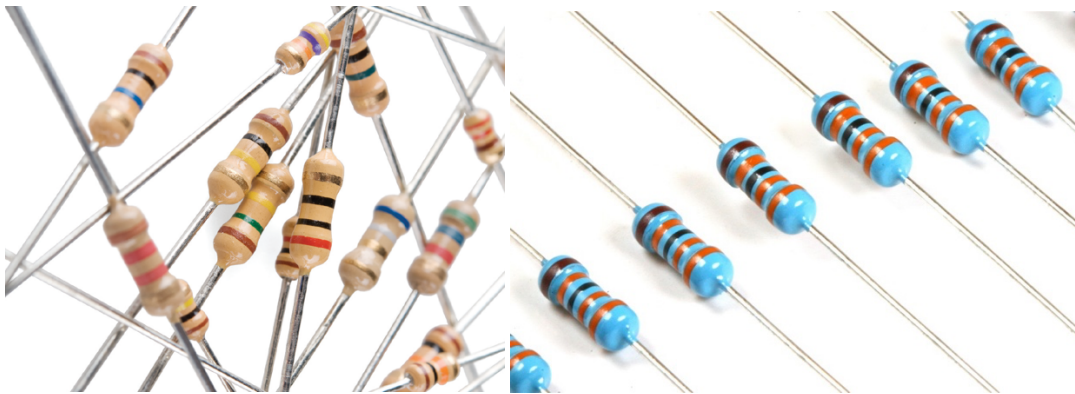

Figure 1 The two common resistor types for ECE labs.
The ECE Department provides lab kits for students each term. Many of the kits have axial leaded resistors like those shown in Figure 1. Often they are returned by students at the end of term, but because they are used and often jumbled together, we don't reuse them. This is partly because of the effort needed to sort them and discard those with leads that are too mangled, and partly because they are so inexpensive that it's easier to just get new ones. Also, students pay for consumable components like resistor, so really they deserve new.
3. It must work for resistors that resemble those shown in Figure 1; that is, beige- and blue- bodied resistors.